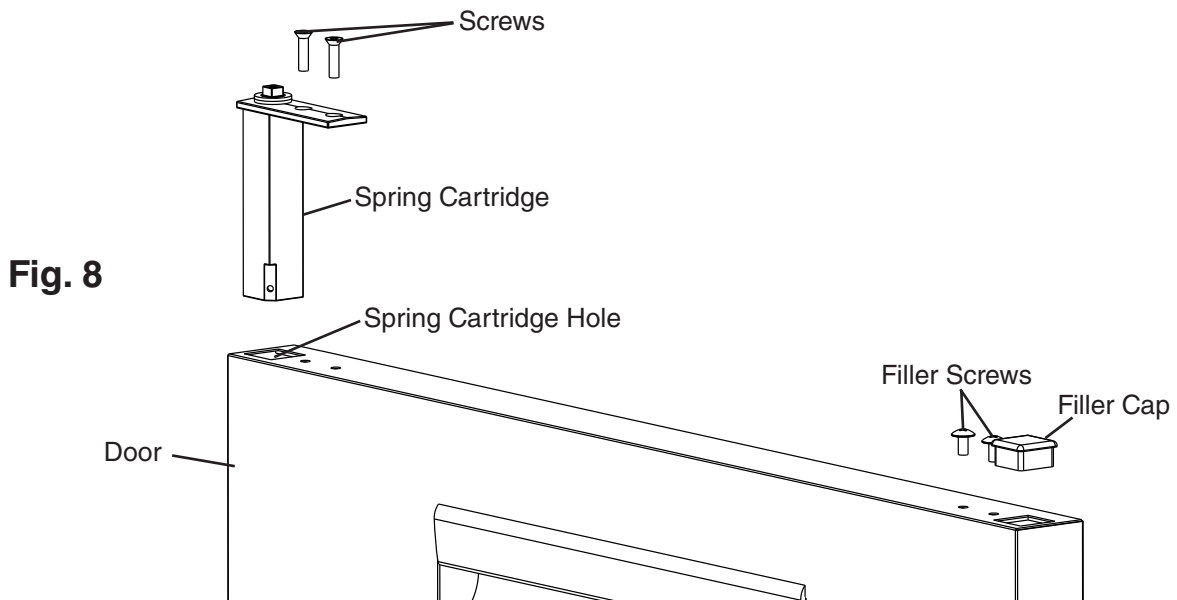

**Fig. 6**
- 6) Remove the upper hinge bracket from the spring cartridge. See Fig. 6.